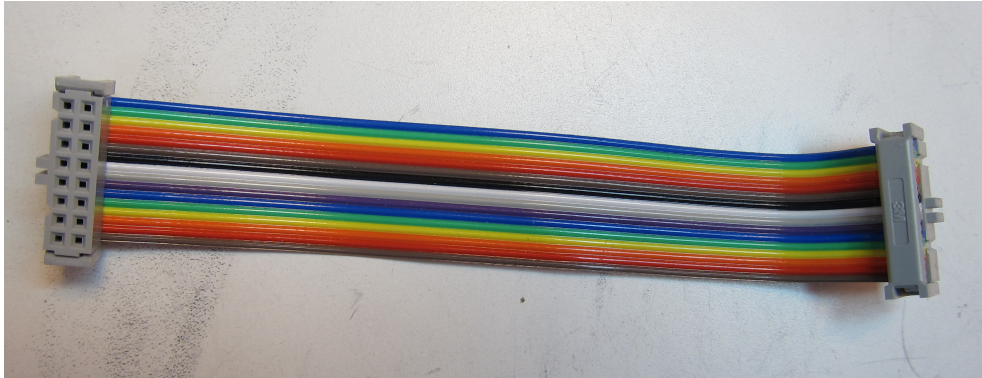

Figure 19: 16 pin test cable.
2. Install two 89116-0101 IDC connectors as shown in Fig. 19.